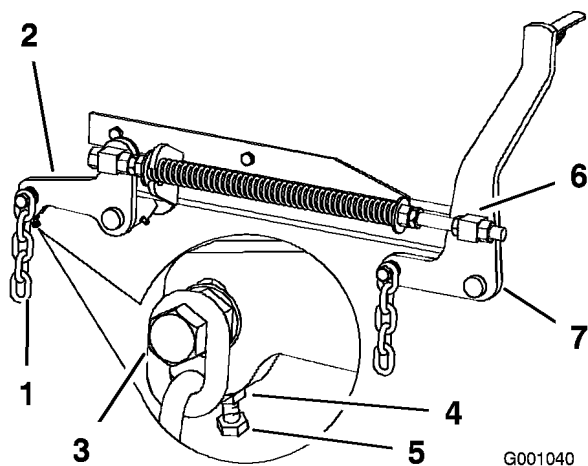

Figure 72
7. If the measurements at positions **B** or **C** are not correct, loosen the bolt attaching the rear chain to the rear support arm (Figure 72).
8. Loosen the jam nut under the rear support arm and adjust the adjustment bolt to get a measurement of 3-1/8 to 3-1/4 inches (Figure 72).
7. Loosen the front swivel jam nuts, at the front of the right and left swivels, approximately a 1/2 inch (13 mm) (Figure 72).
8. Adjust the lift nuts on both the left and the right side of the machine to achieve 1/4 to 3/8 inch (6 to 10 mm) lower in front at **A** than in the rear at **B** (Figure 72).